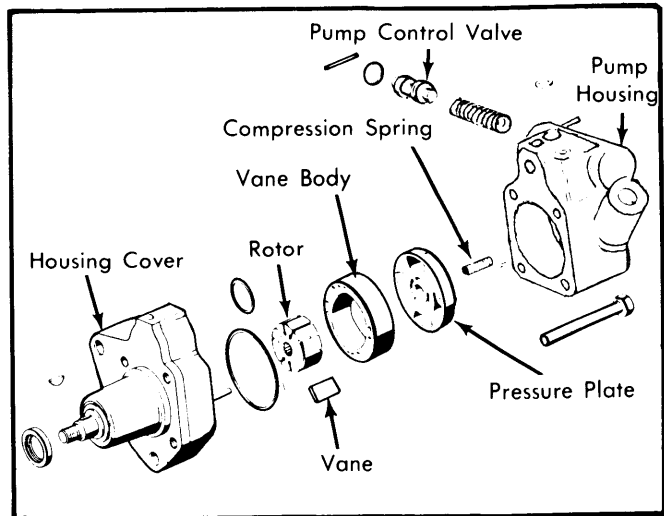

Fig. 1 Exploded View of Power Steering Pump (VT 27 Shown)
7) Dismantle control valve and check for worn, damaged or missing parts. See Fig. 1.